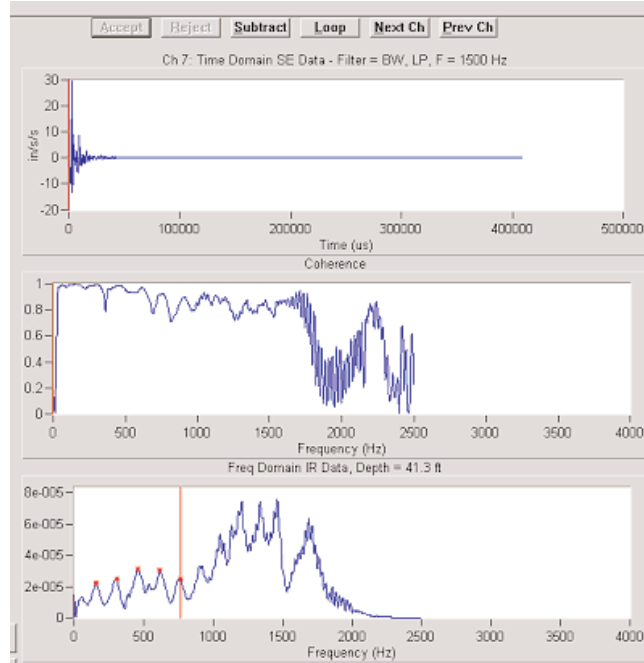

Figure 8: IR Analysis, note the depth of 41.3 ft.
11. Once the records are either accepted or rejected, the IR Analysis can begin. This is done by picking the peaks seen the bottom plot, see Figure 8. The peaks are picked that same way as the troughs are picked in SE analysis, meaning that the mouse buttons and their corresponding functions are the same.